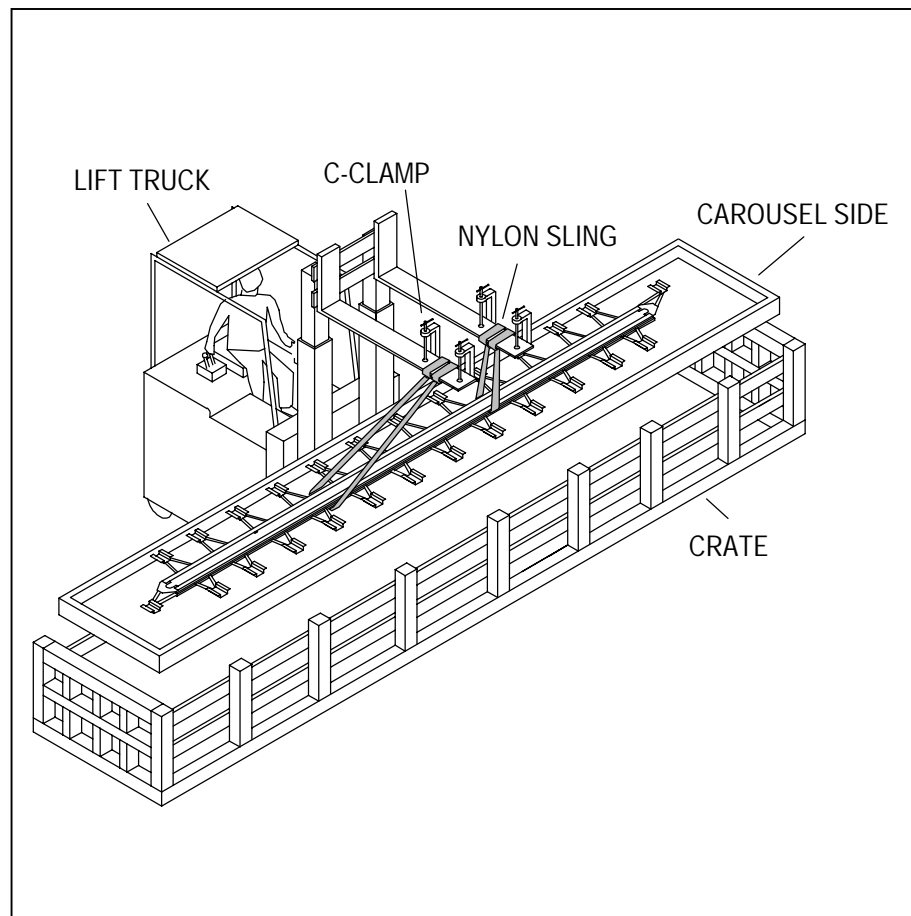

Figure 7. UNCRATING SIDES
1. Attach two slings, spaced 4 feet apart, at the center of the chain track (see Figure 7).